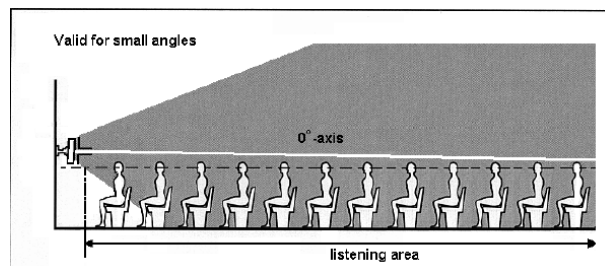
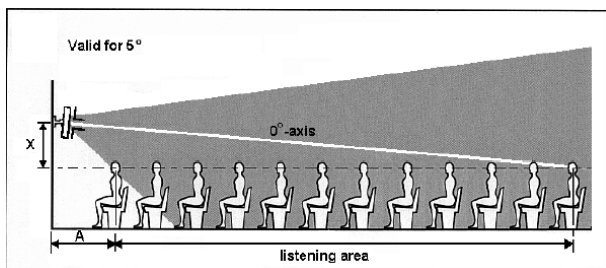

Figure 1: side view of loudspeaker array radiation mounted to the wall with a small angle
Figure 2: side view of loudspeaker array radiation mounted to the wall with a 5° angle
1. Determine the dimensions of the desired 'listening area' (a horizontal plane at the level of the listeners' ears – refer to the dashed line in figure 1).
- When a large listening area is desired, an angle of around 3" is recommended (see figure 1). Note that when walking away from the loudspeaker array, the sound pressure level will decrease by an amount that depends on the room reverberation. To hear high tones clearly, the listener should be able to see the loudspeaker array.
- When less sound pressure level variation is desired, an angle of 5° is recommended. Note that this reduces the size of the total listening area compared to approach 1, and that the space very close to the loudspeaker array ('A' in figure 2) is not part of the listening area. Diagram 1 shows the relationship between 'A' and the mounting height of the loudspeaker array when using a 5" installation angle.
2. Measure the maximum distance from loudspeaker array to the last listener in the listening area (corresponding to 'B' in figures 1, 2 and 3).
3. Refer to diagram 1, and trace upwards from the maximum distance on the horizontal axis. From the vertical intersection with diagonal B-line, you go horizontal to the vertical axis. The X-value (height of loudspeaker array mounting bracket above the listening plane, 'X' in figure 1) is standing on this axis. The horizontal intersections with other diagonal lines provide information about the dimensions of the listening area. These numbers are related to figures 2 and 3 (see also example below).
4. Figure 2 shows the 1 kHz octave shape radiated by the loudspeaker array and figure 3 shows the 4 kHz octave shape radiation. The listening area with the optimal acoustic performance is in these shapes. Ensure the 4 kHz shape with the dimensions obtained using diagram 1 adequately covers the desired listening area.